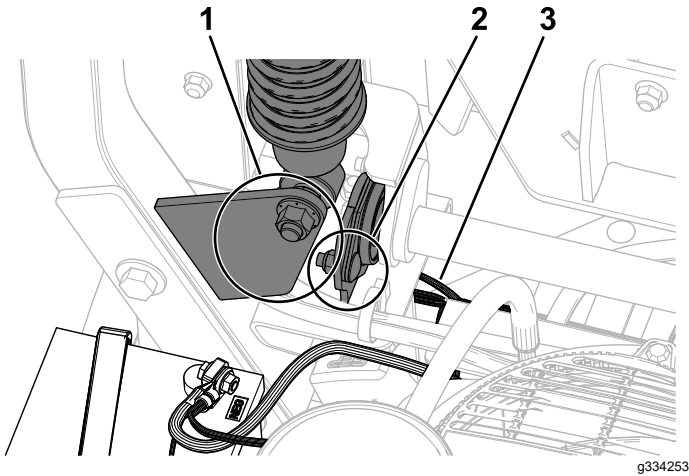

Figure 71
**Note:** For MyRide machines, ensure that the ground cable does not rub against the trailing arm or lower shock mount (Figure 71).